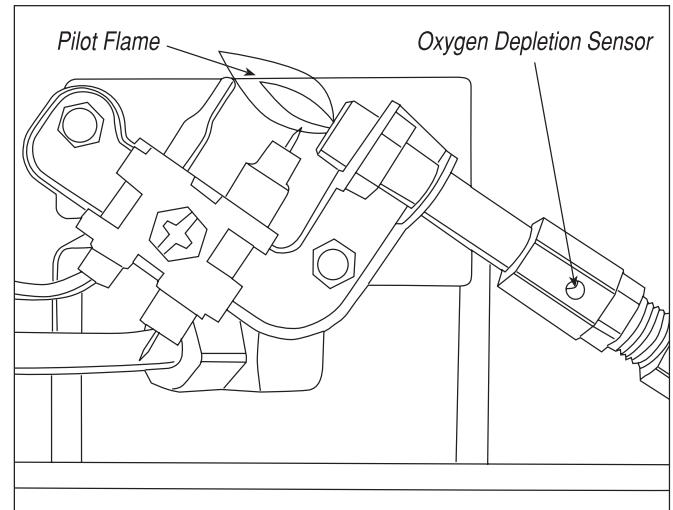

Figure 2
Visually inspect the pilot flame and burner periodically during use. The pilot flame should be blue in color (not yellow) and will extend beyond the thermocouple. The flame will surround the thermocouple just below the tip, see Figure 2.
- 4 Remove (1) burner assembly retaining screw from bottom of the heater.
- 8 Inspect and clean pilot (mounted to bracket) by using a vacuum or apply air pressure through the holes in the pilot indicated by the arrows in Figure 2.